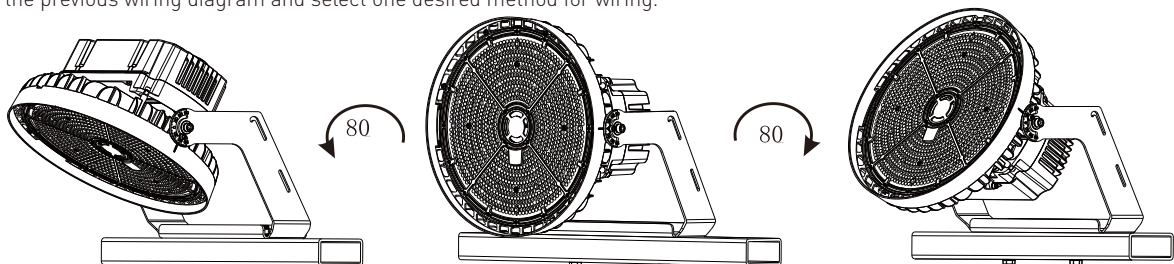

Figure 5
5. According to the need, adjust the projection angle, angle adjustment range. (Figure 5)